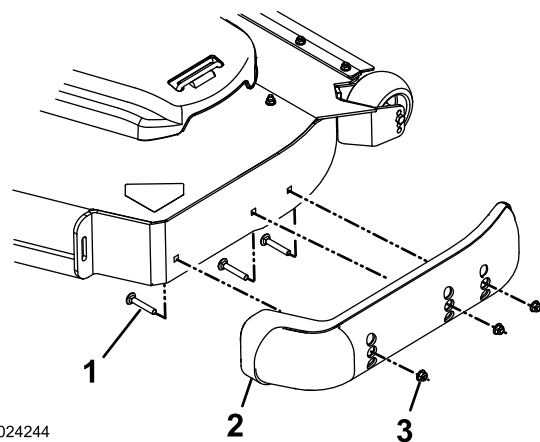

Figure 31
3. Remove the carriage bolts and nuts from each skid (Figure 31).